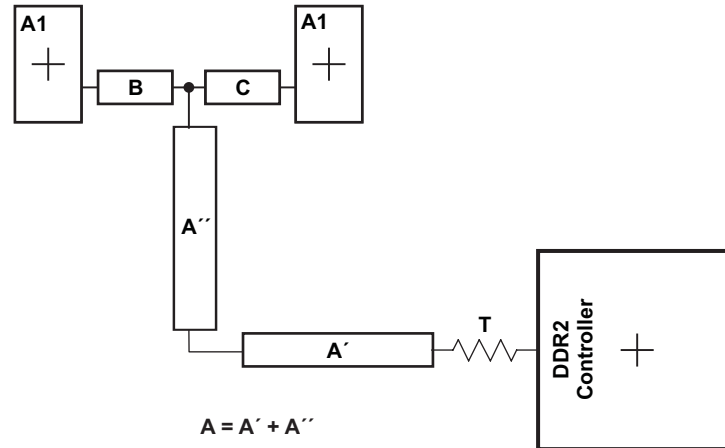

Figure 9-10. CK and ADDR_CTRL Routing and Topology
Figure 9-10 shows the topology of the routing for the CK and ADDR_CTRL net classes. The route is a balanced T as it is intended that the length of segments B and C be equal. In addition, the length of A ($A' + A''$) should be maximized.
(1) The length of segment $A = A' + A''$ as shown in Figure 9-10.
(2) Center-to-center spacing is allowed to fall to minimum (w) for up to 500 mils of routed length to accommodate BGA escape and routing congestion.
(3) CACLM is the longest Manhattan distance of the CK and ADDR_CTRL net classes.